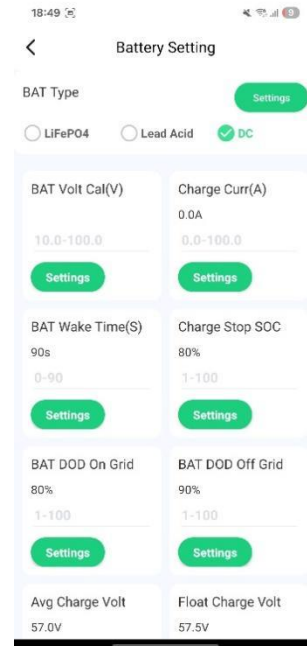

Fig. 4.20.23 DC
(3) If you select "DC", settings involve battery voltage, current, DC source charge/discharge voltage, DC source charge/discharge current, and more, as shown in Fig. 4.20.23.